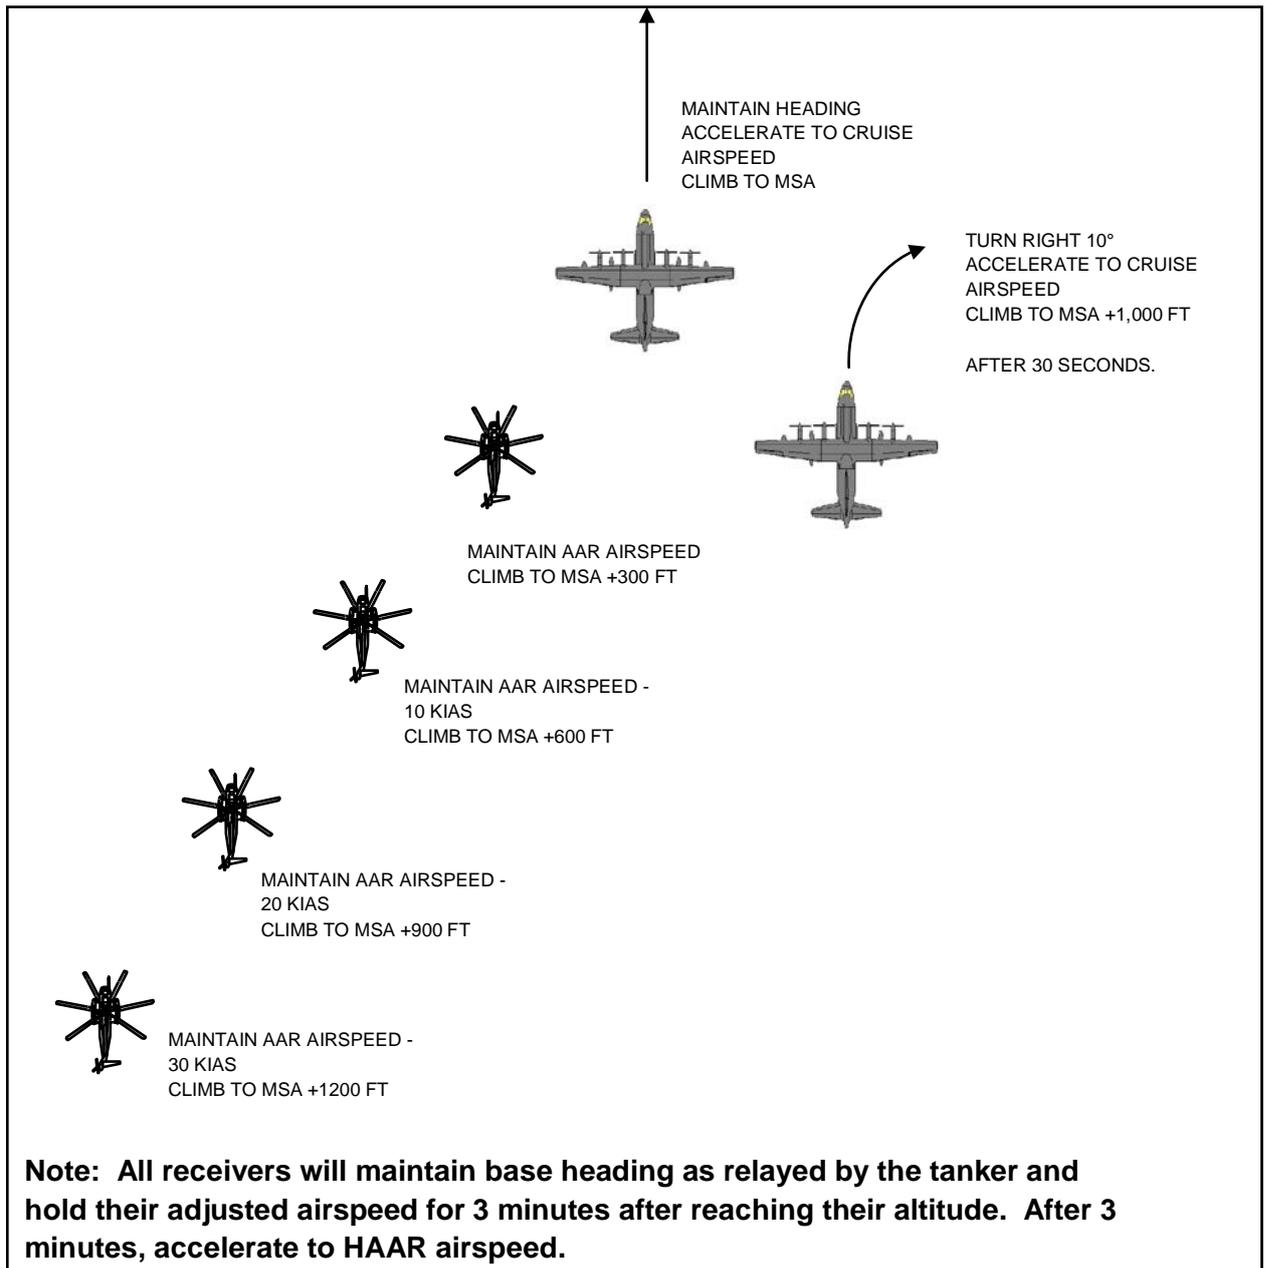
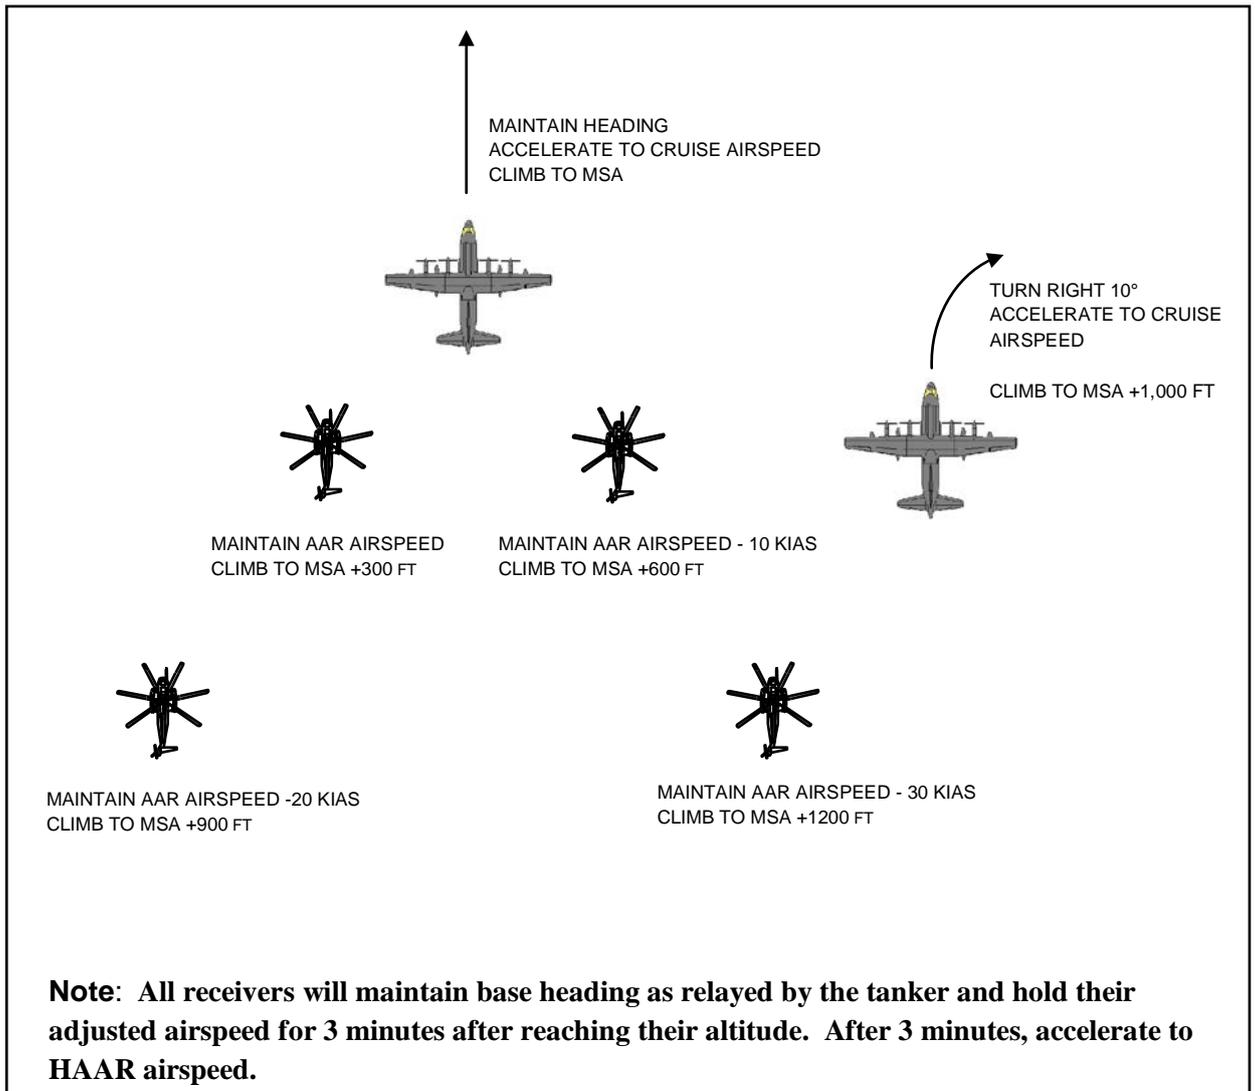

Figure 3-8. - Lost Visual Contact/Mountainous Procedure
Figure 3-9. - Lost Visual Contact/Mountainous Procedure
- (viii) **All Receivers.** All receivers will maintain base heading and hold their adjusted airspeed for 3 min after reaching their altitude. After 3 min, accelerate to HAAR airspeed (see Figure 3-8).
- (b) **Simultaneous Refuelling Operations.** For simultaneous refuelling operations, make the following changes to the procedures in (1) above: After “LOST VISUAL CONTACT” is called:
- (v) **All Receivers.** All receivers will maintain base heading and hold their adjusted airspeed for 3 min after reaching their altitude. After 3 min, accelerate to HAAR airspeed (see Figure 3-9).